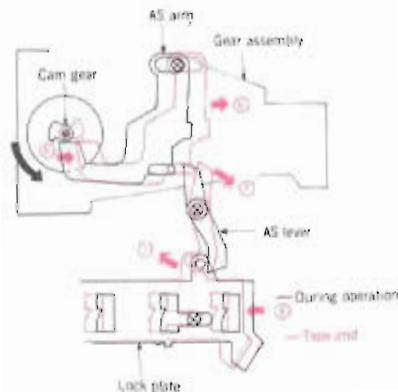

Figure 18
3) When the AS Arm slides into the position shown in black in Figure 18, it engages with the AS cam under the Cam Gear and slides in the direction of arrow ⑥.
4) When the AS Arm slides into the position shown in color, the AS Lever rotates in the direction of arrow ⑦ and makes the Lock Plate move in the direction of arrow ⑧. This sliding of the Lock Plate causes the same conditions as when the Stop button is depressed, and each slider goes into the stop mode.